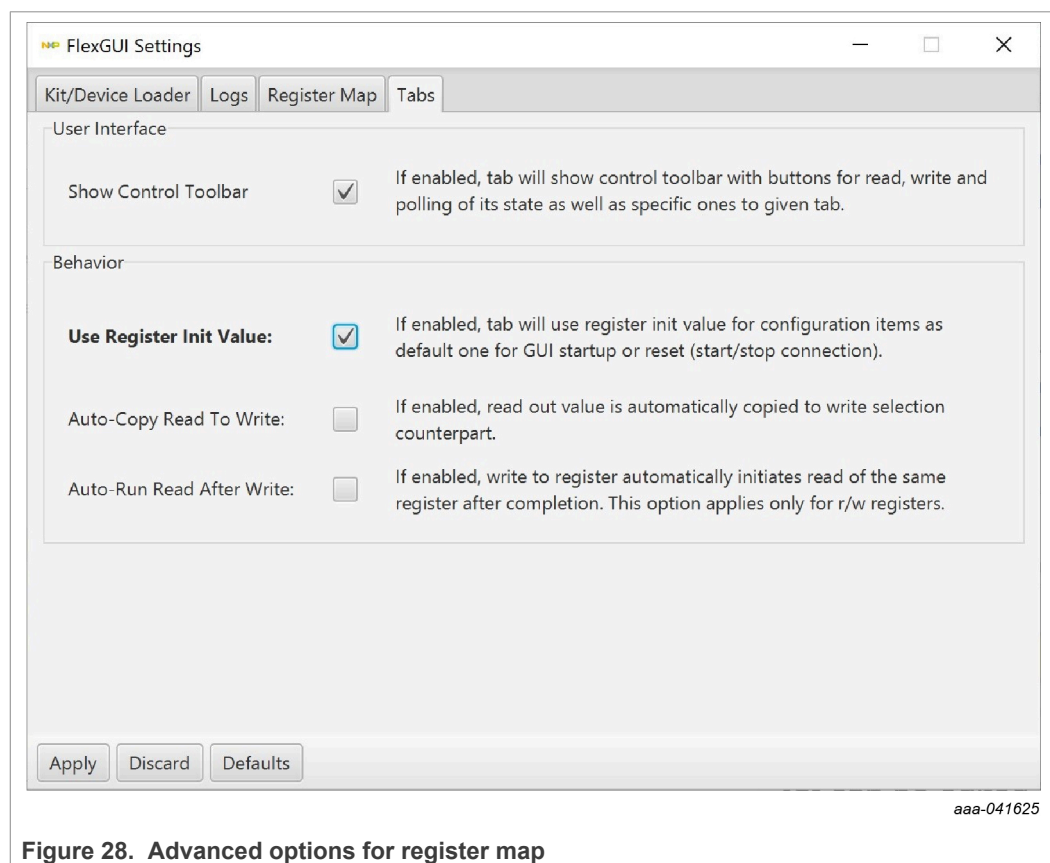

Figure 28. Advanced options for register map
The contents of the selected register, or register group, are displayed in the main window. Register data can be edited in the top row in preparation for writing to the register. When option **Use Register Init Value** is selected, the editor is initialized with the default values at start-up and reset (Figure 28). If this option is not selected, all bits will be 0 at start-up and reset.
- Clicking the **Reset** button undoes changes made to the 'write' row(s) since the most recently executed write action(s) on the associated register(s). If a register has not been previously written to, the selected rows are re-initialized (with the default values as selected via the **Use Register Init Value** check box; see Figure 28).